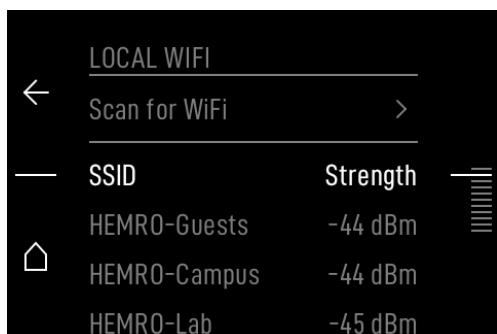

Figure 31; WiFi scan page
**Select and Connect to WiFi:** It shows the status of several components used from the WiFi system. Begins the scan of available wifi networks. Those found are shown in a list as in Figure 31
**Scan for WiFi:** begins the scan of available wifi networks. Those found are shown in a list as in Figure 31.